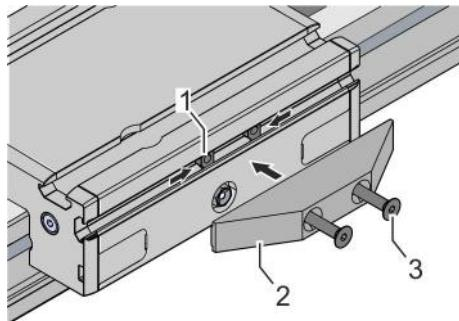

Fig. 32: Assembling the actuator
1. → Insert and position the slot stones (Fig. 32/1) in the slot of the guide carriage.
2. → Place the actuator (Fig. 32/2) at the height of the inserted slot stones.
3. → Tighten 2 screws (Fig. 32/3):